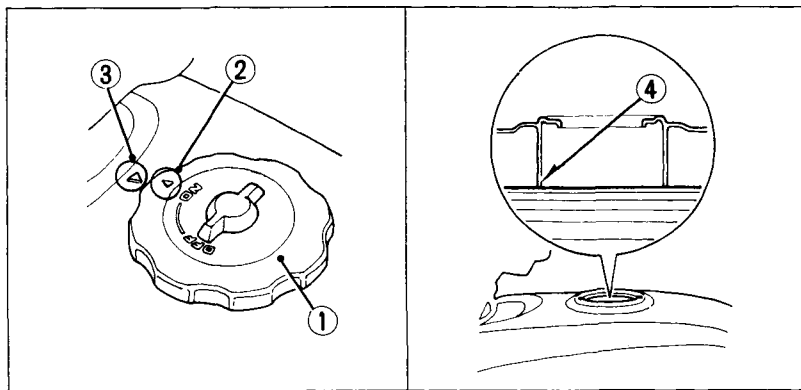

Fig. 4-2
To refuel, remove the fuel fill cap (Fig. 4-2) by twisting it counterclockwise. Do not overfill (make sure there is no fuel in the filler neck). After adding fuel, tighten the fuel fill cap firmly by turning it clockwise. Align the arrow (2) on the cap with the reference mark (3) on the fuel tank.